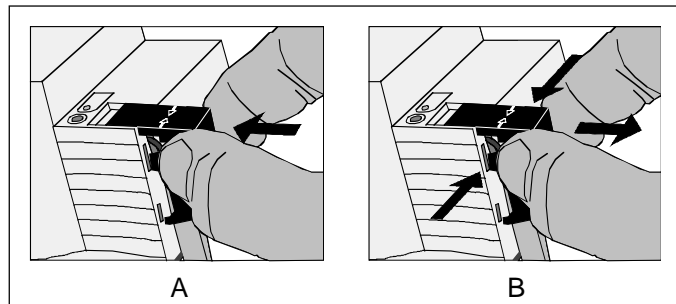

Fig. 5: Installing / removing the protective cap
- To install the cap: Slide the cap over the bus connecting terminal until it is heard to engage (cf. Fig. 5.A).
- To remove the cap: Remove the cap by pressing the sides slightly and by pulling it out to the front (cf. Fig. 5.B).